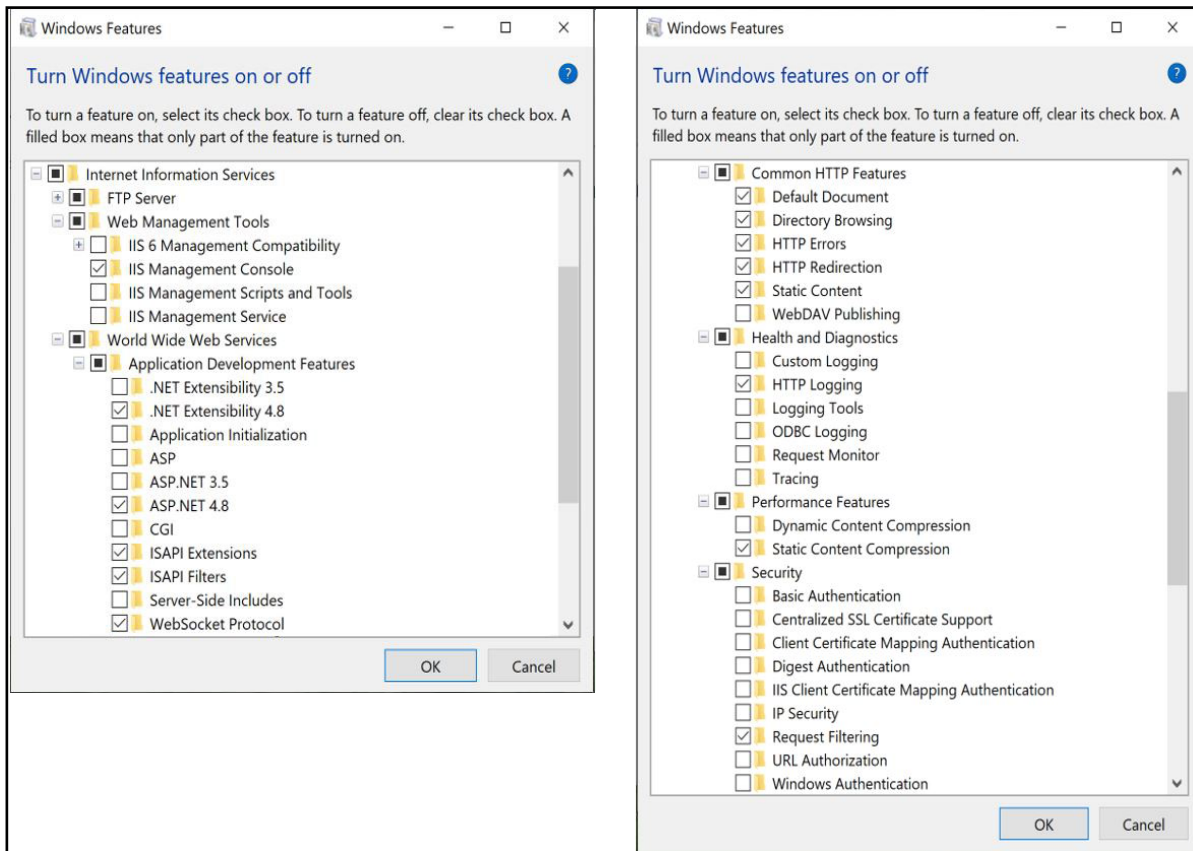

Figure 2-5. Windows Features Configured
- B.2 Expand **Internet Information Services** tree and enable check boxes as displayed in Figure 2-5.